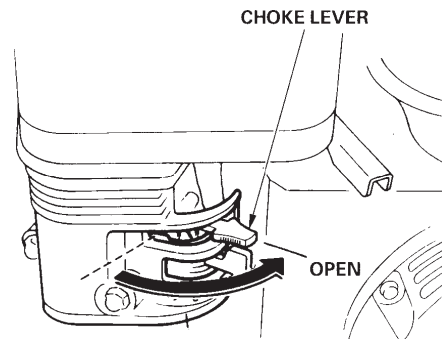

Figure 11. Engine Choke Lever (Open)
4. Place the ***choke lever*** (Figure 11) in the "**OPEN**" position if starting a ***warm*** engine or the ***temperature is warm***.
7. If the engine has started, slowly return the choke lever (Figure 11) to the **OPEN** position. If the engine has not started repeat steps 1 through 6.